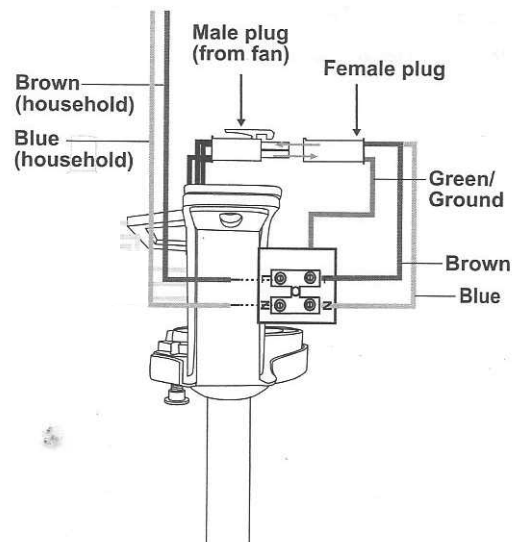

Figure 12
2. Be sure to snap together the male and female plugs. (Fig.12)
3. Connect the blue/ household wire to the terminal block "N" hole. Connect the brown/ household wire to the terminal block "L" hole. (Fig. 12)